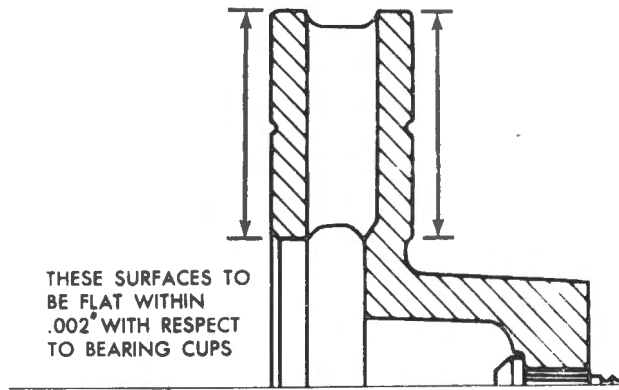

Fig. R-19
- 1 To maintain front brake efficiency, it is essential to check the discs for run out, parallel surfaces and thickness. A scored disc may be reground provided suitable grinding facilities are available. The disc should be ground to a fine finish and must be flat and parallel to the mounting surface. Fig. R-19.